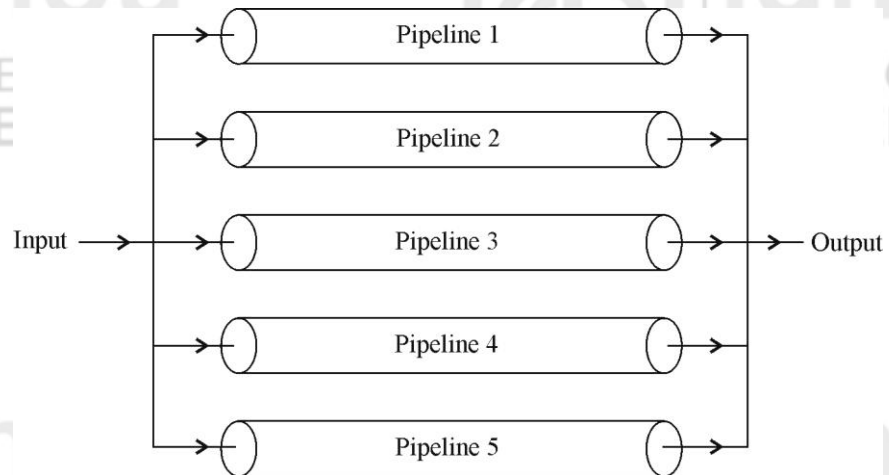

Fig. 15.3: System of 5 pipelines connected in parallel.
**Example 1:** Consider a piping system having 5 pipes connected in parallel as shown in Fig. 15.3. Assume that all pipes are identical and independent. If reliability of smooth flow of the liquid from each pipeline is 0.80 for a mission of 1 year, evaluate the reliability of the system working successfully. The system is said to work successfully if at least 3 pipelines perform their intended function successfully.